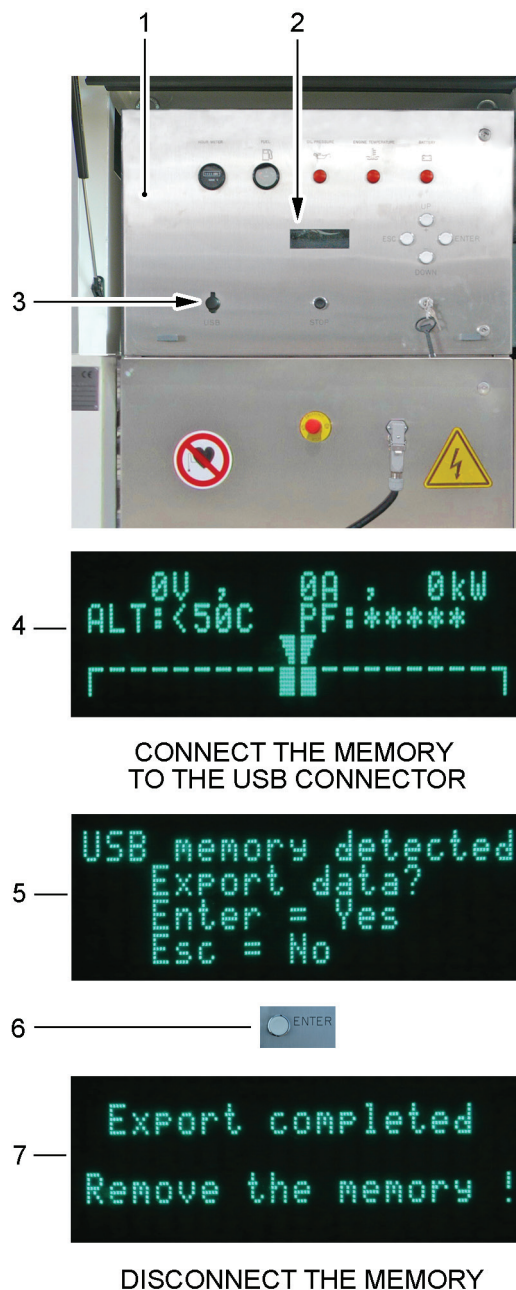

Figure 6.51 - Download the logger's data file (Optional)
On the command and control panel (see Figure 6.51/1) of the Induction Heating Generator IHG 120CU an USB connector (3) may be installed to be used for downloading a file named LOG.CSV containing all the logger data. In order to correctly use this function it is advisable to utilize memories of 16GByte capacity maximum possibly empty.